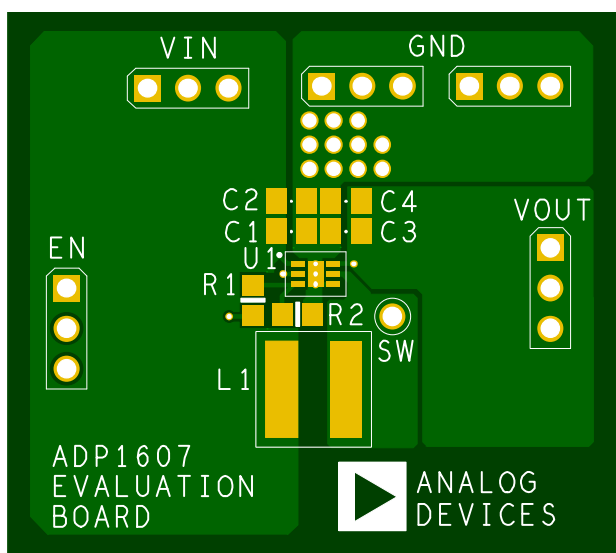

Figure 13. ADP1607 Boost Application PCB Top Layer
- FB as possible to prevent noise pickup, as shown in Figure 13. Connect the ground of the feedback network directly to an AGND plane that makes a Kelvin connection to the GND pin. If working with the ADP1606-1.8-EVALZ, this step can be ignored.